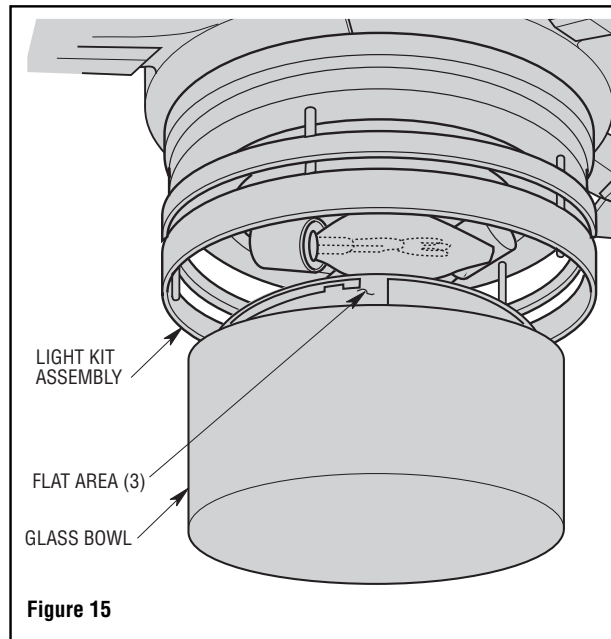

Figure 15
2. Place the glass into the opening in the light kit assembly, aligning the three flat areas on the top edge of the glass with the three light kit tips on the light kit assembly and turn the glass bowl clockwise until it is secure (Figure 15).